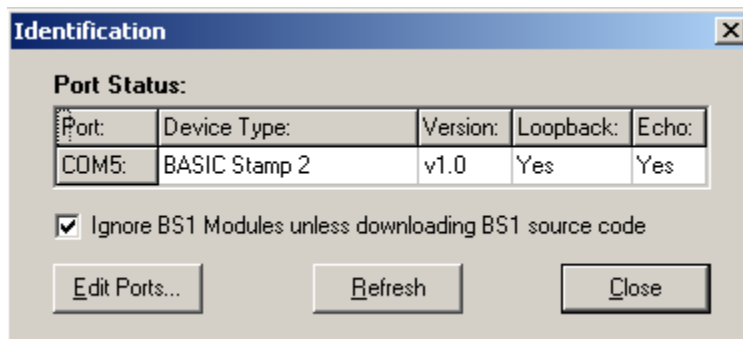

Fig. 2 Example result of a correct connection check
4. Next, you need to test the connection between the board and the computer. In order to do this, click on the functional key **F6** on your keyboard. Alternatively, you can click on '**Run→Identify**' in the Basic Stamp Editor window. If the connection has been properly done, you will see that the connection has been detected on one of the COM ports of the computer, similar to what is shown in Fig. 2 below (in this figure, it is indicated that COM5 is where the connection was detected and the device identified was BASIC Stamp 2).